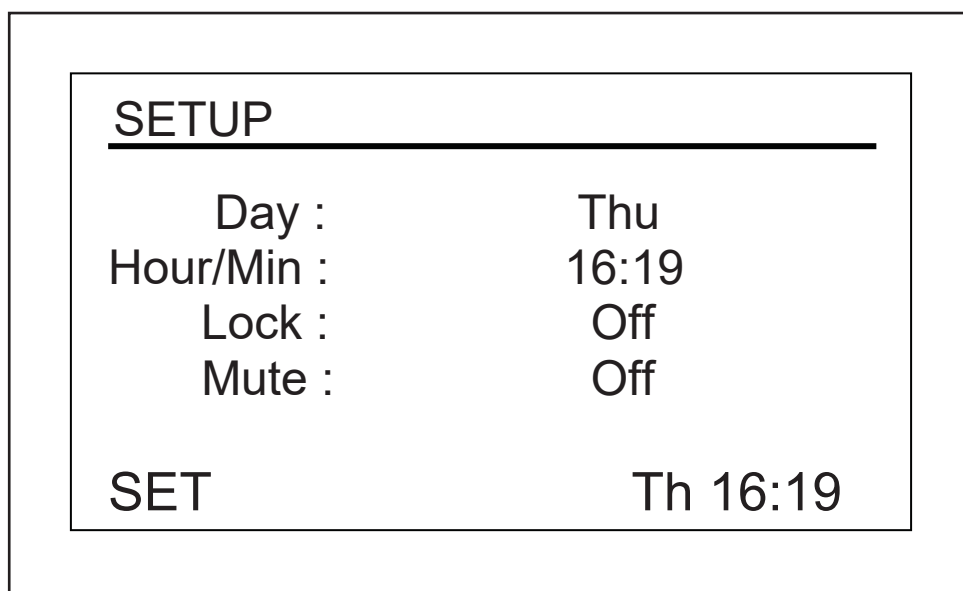

Fig. 9-5: Setup screen
1. Turn the knob to highlight the day (*Thu* in the sample screen, (see Fig. 9-5 on p. 54)), then click inward once.
1. Turn the knob to highlight the time (16:19 in the sample screen, (see Fig. 9-5 on p. 54)) then click inward once.
The current status (*Off* in the sample screen, (see Fig. 9-5 on p. 54)) will flash.